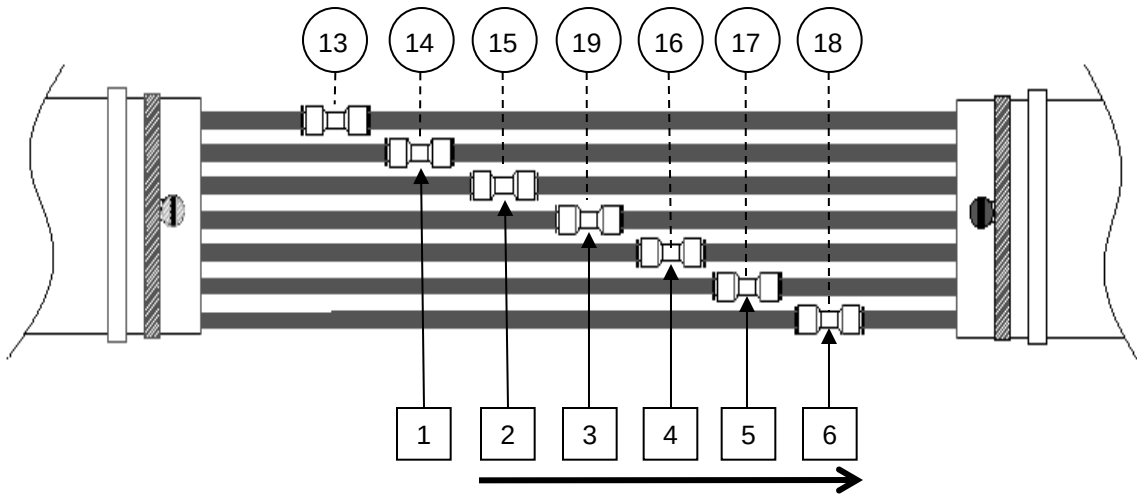

Figure 15
11.10 Repeat procedure for Tubes 2 through 6. Adjust each Tube Coupling position until there is about a 1/4" - 3/8" space between its end and the end of the previously installed Tube Coupling. **See Fig. 15.**